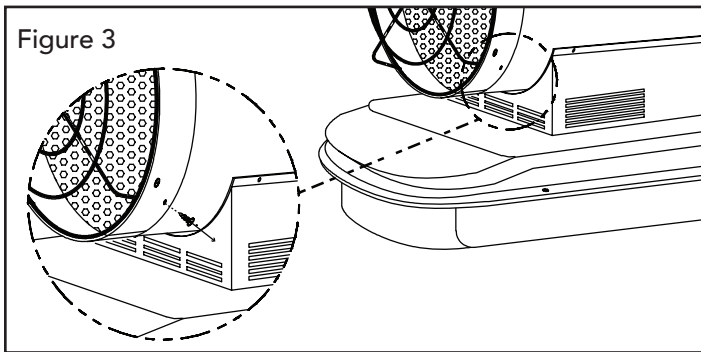

Figure 3
1. Remove existing screws from shell ring on either side of heater (see Figure 3) .